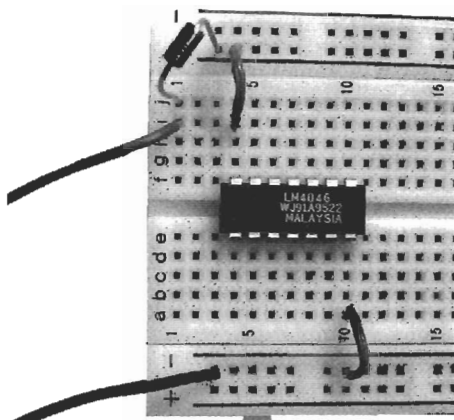

Figure L35-2
Also, note the space restriction that is being imposed. You should squish this initial circuit into the first 15 rows of the breadboard as noted in Figure L35-2.
3. Be sure to scrimp on the space as shown in Figure L35-2. This circuit should occupy only 15 rows of the SBB.